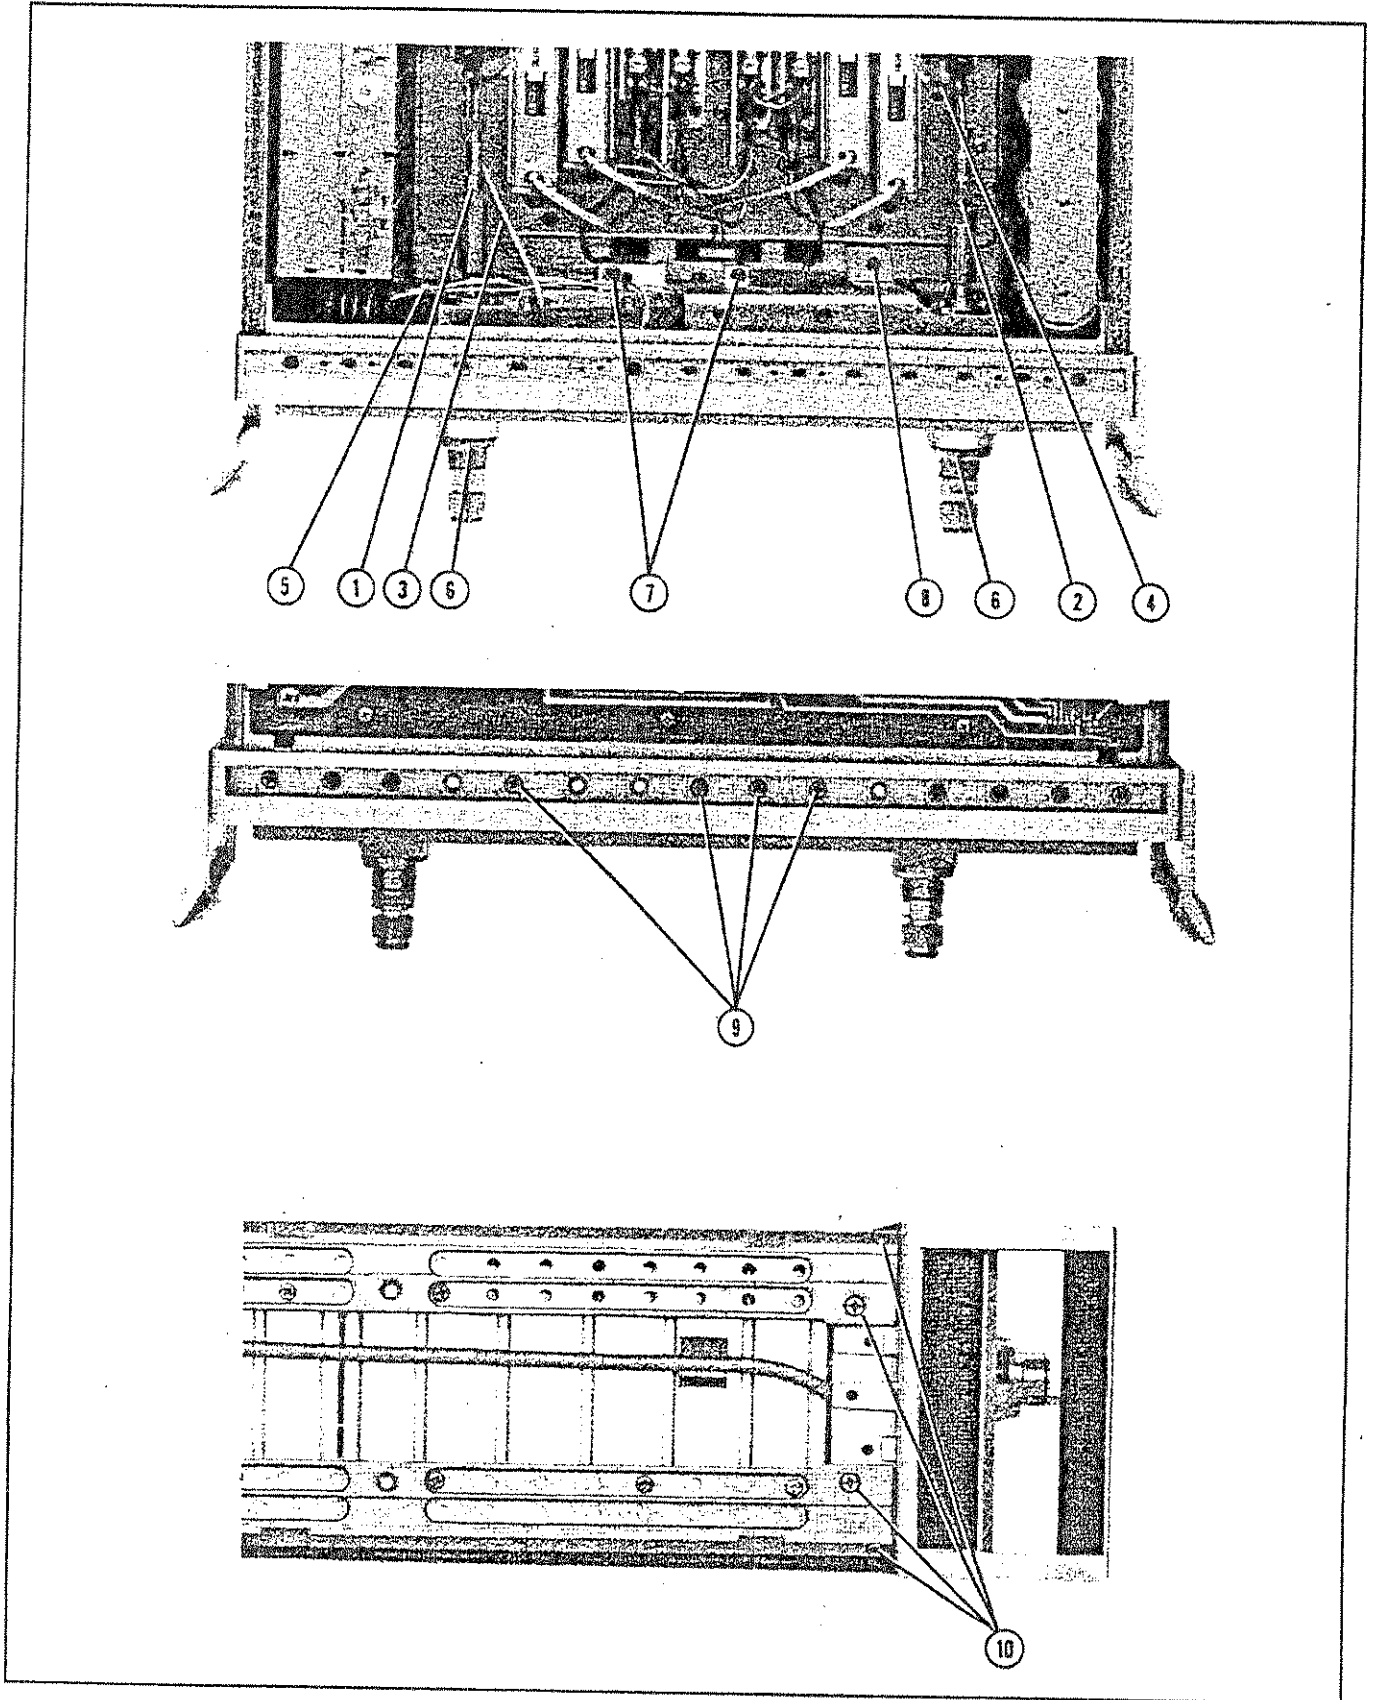

Figure 5-15. Hardware Locations For A6/A8 Directional Coupler Replacement
2. Refer to Figure 5-15. Use a 5/16 inch open-end wrench to loosen the connections at the junctions of AT6/A6 (fixed attenuator/port 1 coupler), and AT5/A8 (fixed attenuator/port 2 coupler); shown as callouts 1 and 2 in the figure. Loosen the connections at the other ends of the hardline cables connected to variable attenuators A24 and A25 and remove the cables/fixed attenuators.